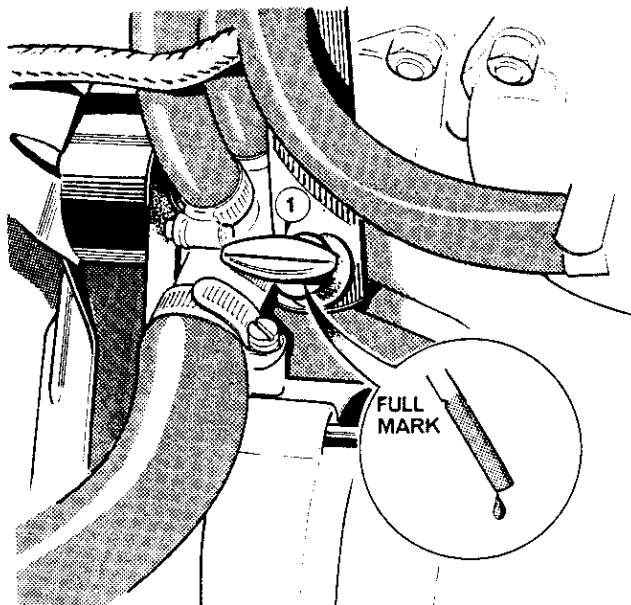

Figure 2 Engine oil level dipstick
2. If necessary top-up with a recommended grade of oil to the full mark on the dipstick. Do not over fill (figure 2)